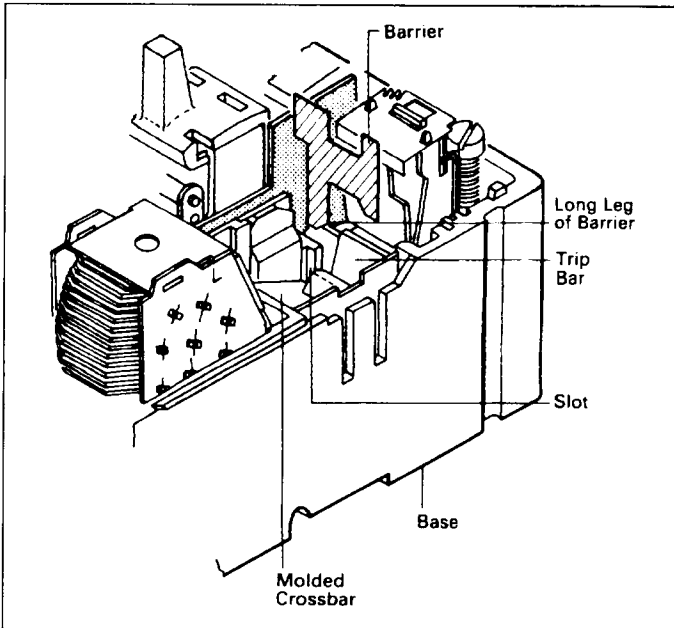

Fig. 2-4. Barrier Installation Position (Left Accessory Mounting Cavity Shown)
- a. Slide barrier into position between molded crossbar and trip bar. Long leg of barrier must go into slot in base (see Fig. 2-4).